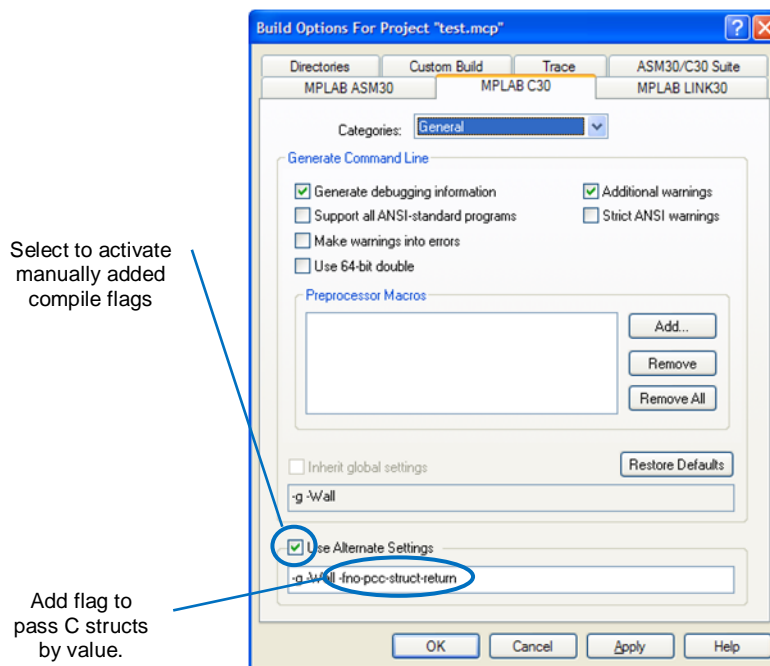

Figure 4: Struct parameter project setting for MPLAB8x
Open the applicable dialog through **Project - Build Options... - Project - MPLAB C30 Tab** and add the required flag according Figure 4.
*Setting flag **-fno-pcc-struct-return** requires use of alternate settings (checkbox "Use Alternate Settings" in the dialog shown in Figure 4. Activating alternate settings implies that changes to the project settings made in the regular way have to be manually copied to the same field where flag **-fno-pcc-struct-return** is contained in, in order to be persistent when closing this dialog.*